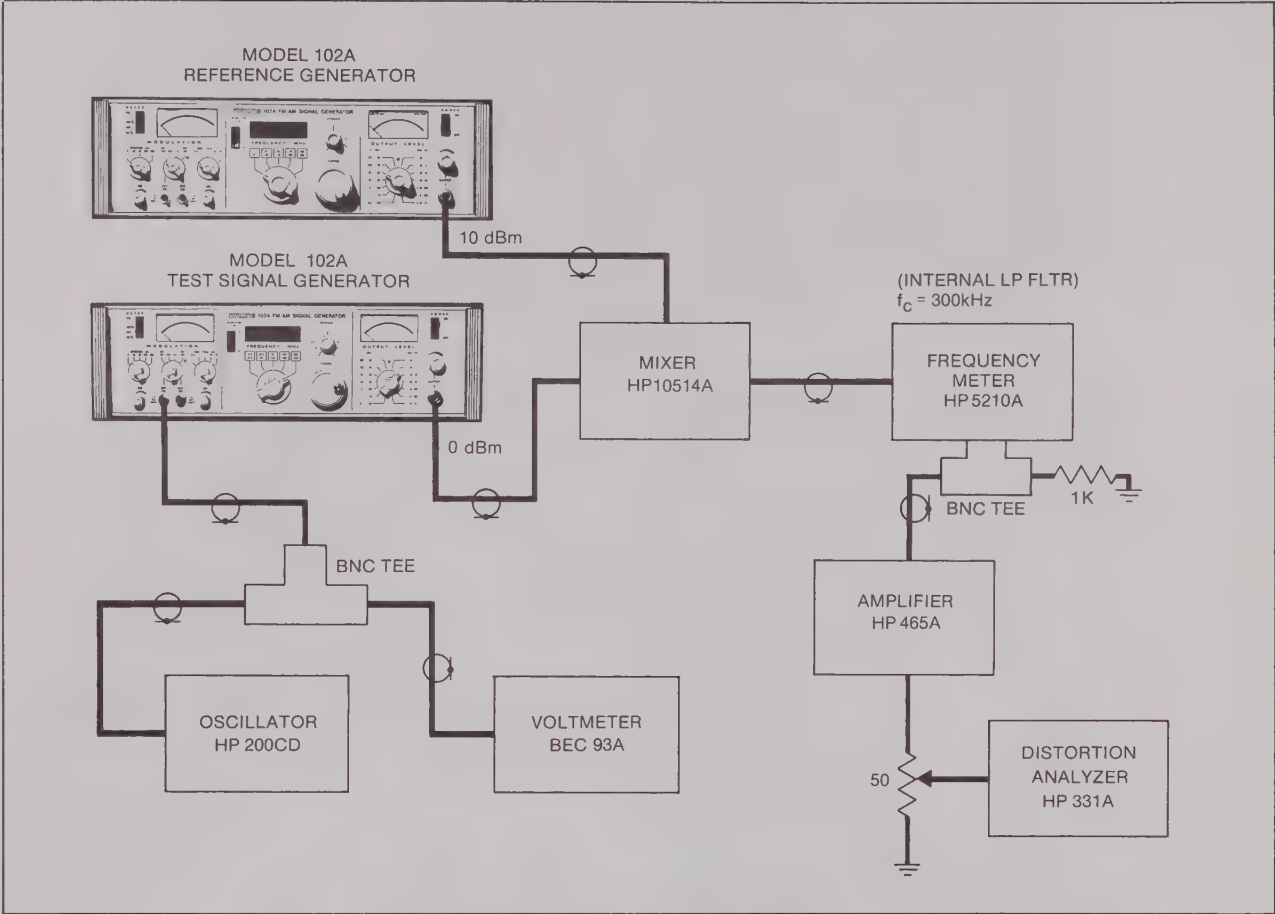

Figure 2-21 FM Bandwidth and Distortion Checks, Test Setup
1. Connect the test Model 102A and test equipment as shown in Figure 2-21.